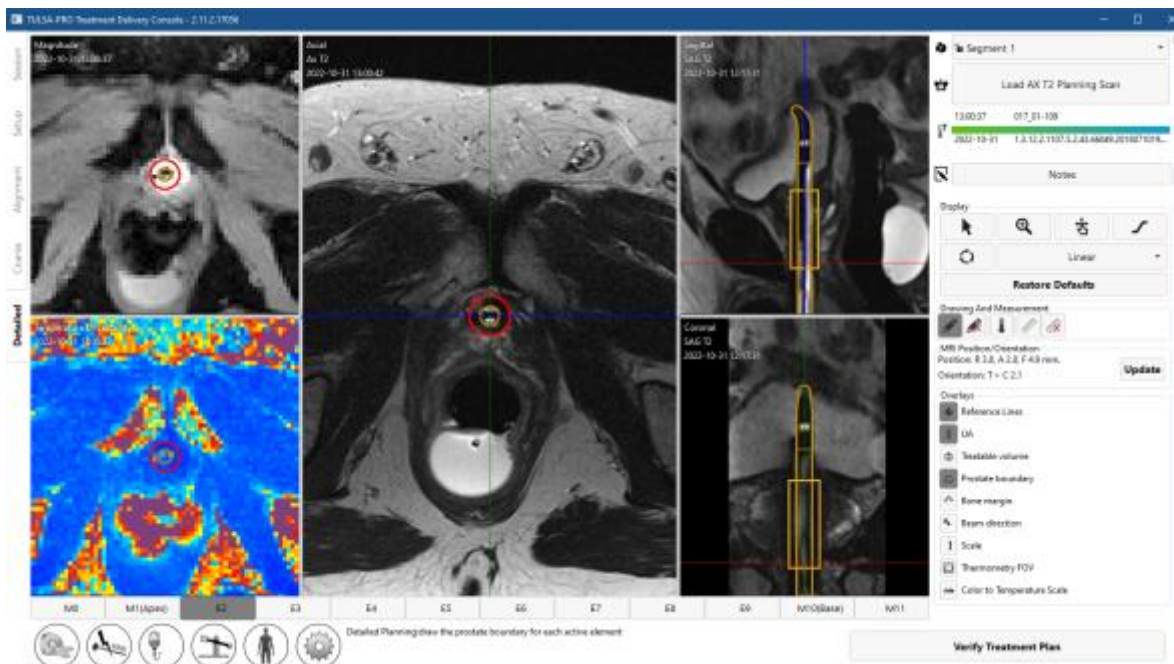

Figure 37: Detailed Planning workspace with Thermometry Magnitude and Temperature Uncertainty
6. Radiologist: As the thermometry scans are received, the **Magnitude** and **Temperature Uncertainty** views will be displayed automatically. Use **Load ... Scan** to load the AX T2 or AX DWI images (*Figure 37*).